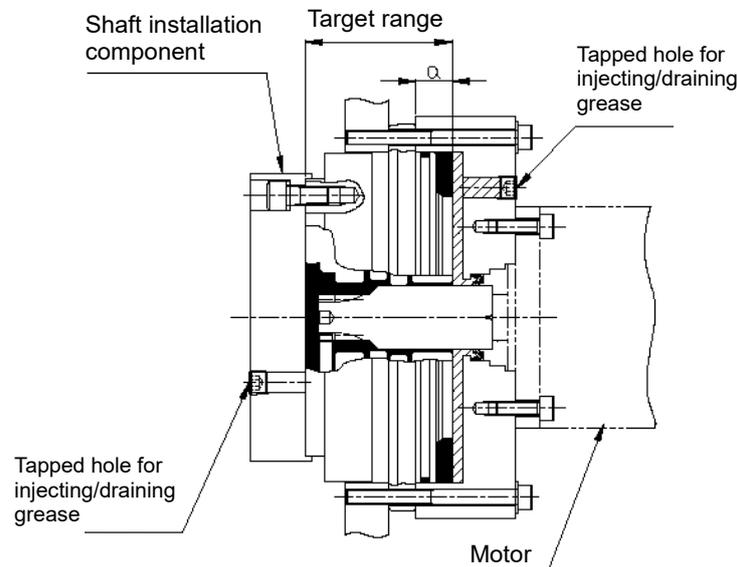

Fig. 6-1
The target range (the  areas in the diagram) when the reduction gear is installed in the horizontal shaft is indicated in Fig. 6-1. The amount does not include the space on the motor mounting side (the  areas in the diagram). Therefore, if there is a blank space, also fill the space. Leave a space about 10% of the total volume of the internal capacity of the reduction gear (the  areas in the diagram) and the space on the motor mounting side (the  areas in the diagram). Be sure to fill the amount of lubricant described in the separately provided "Outer dimensions" drawings. If there is no indication in the "Outer dimensions" drawings, contact our service representative individually.
- The shape of the reduction gear may differ from the illustration in Fig. 6-1 above, depending on the ordered specifications. For details on the shape, refer to the separately provided "Outer dimensions" drawings and specification sheet.